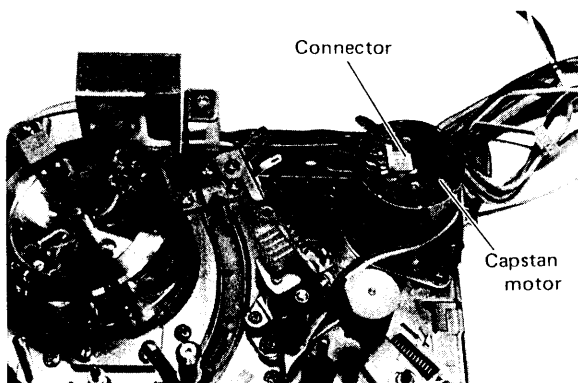

Fig. 2-9 Capstan motor wiring
2. Disconnect the cap housing from the capstan motor and take out two screws (14) to remove the capstan motor.
3. Replace the capstan motor and reassemble by reversing the above steps. Use care regarding the capstan motor wiring (see Fig. 2-9).